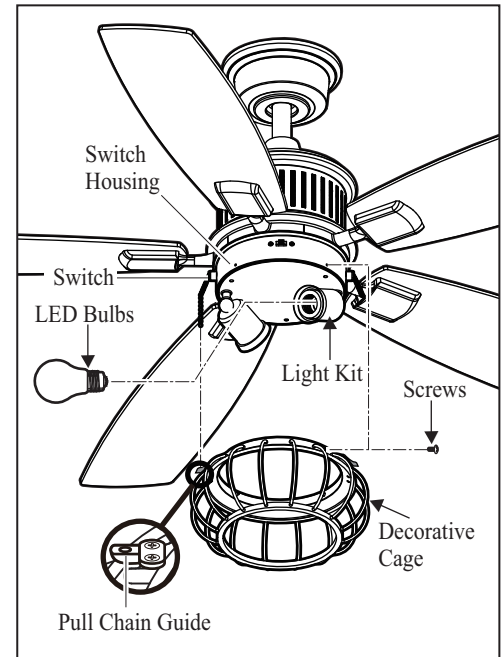

Figure 22
4. Raise the decorative cage up against the light kit and secure by tightening with the four decorative cage screws. (Fig. 22)
THE PULL CHAIN GUIDE ON THE DECORATIVE CAGE MUST ALIGN WITH THE SWITCH ON THE SWITCH HOUSING FOR THE PROPER FIT. (FIG. 22)